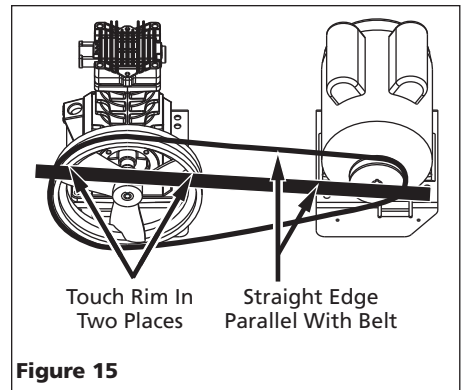

Figure 15
- e. To align belt, lay a straightedge against the face of the flywheel touching the rim at two places (See Figure 15).